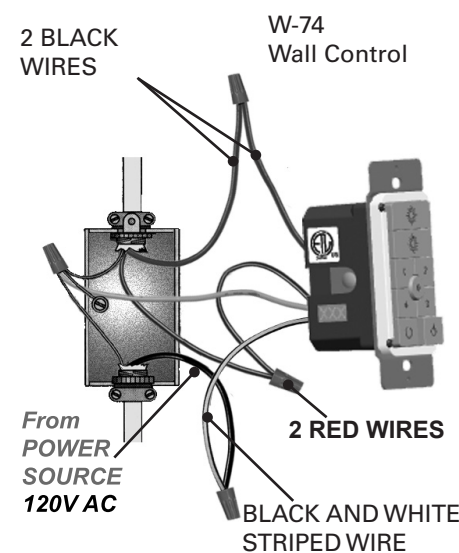

Figure 5
- Remove the two remaining wires from the three-way switch. Connect the black wire of these wires to a black wire on the W-74 control. Secure the splice with a wire nut. The remaining red wire is to be connected to the other red wire on the W-74. Secure the splice with a wire nut. Figure 5